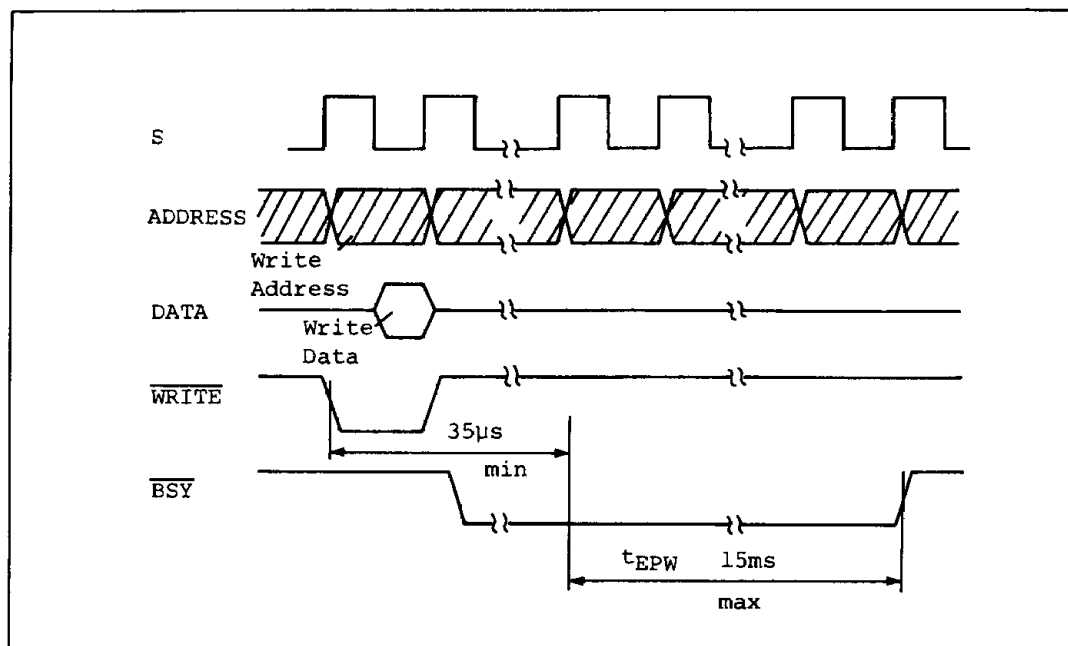

Figure 3-6 Byte Erase/Write Timing
(2) Byte erase/write (EI=0): The EEPROM can be programmed on a byte basis with ST instruction. The EEPROM erase/write time specification is 15ms (max.). $\overline{BSY}$ in the ECR can be used to check whether the erase/write cycle has been completed or not. Figure 3-6 shows byte erase/write timing.
(3) Byte write (EI=1): If EI=1, the EEPROM can be written on a byte basis but it can not be erased. Because byte locations are not erased prior to a new data write, the existing data and new data are logically ANDed to obtain new programmed data.